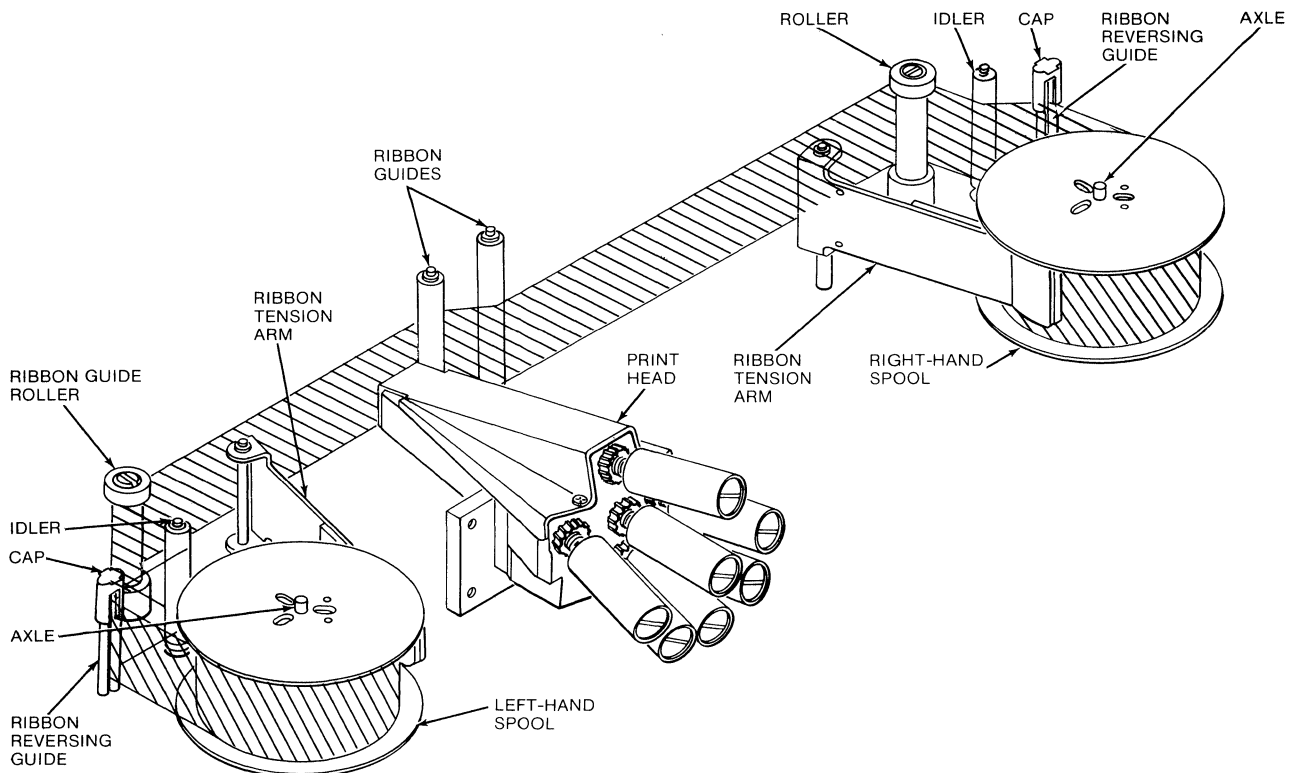
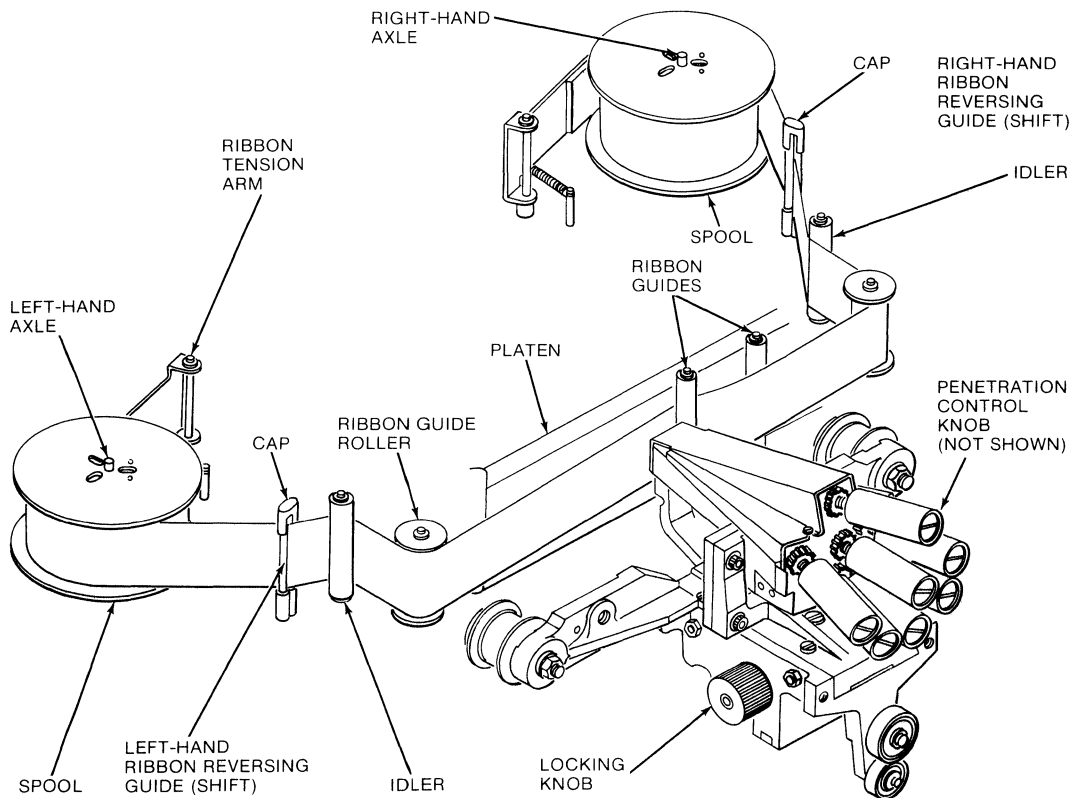

FIGURE 98. 2740 AND 2742 PRINTERS, RIBBON REPLACEMENT DIAGRAM
FIGURE 99. 2744 PRINTER, RIBBON REPLACEMENT DIAGRAM
To replace a worn ribbon, refer to Figure 98 for the 2740 and 2742 Printers or Figure 99 for the 2744 Printer and perform the following steps.
11. Starting on the right side, insert the ribbon in the right-hand reversing guide, and thread the ribbon through the idler and ribbon guide rollers as shown in Figure 98 for the 2740 and 2742 Printers or Figure 99 for the 2744 Printer.